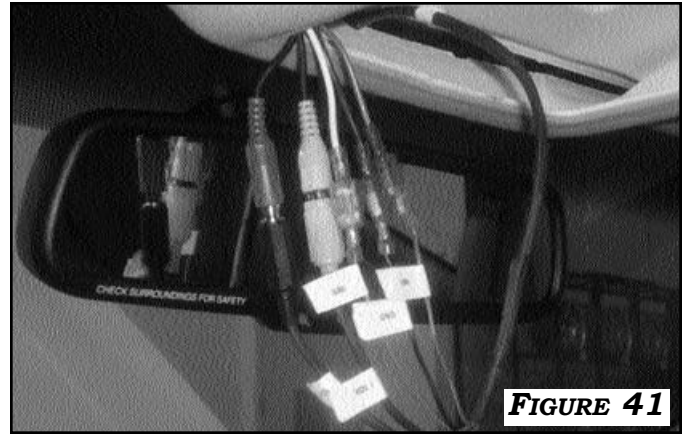

FIGURE 41
3. CONNECT **MALE RCA** VIDEO CONNECTOR OF CAMERA EXTENSION HARNESS TO **VIDEO** INPUT (YELLOW CONNECTOR) OF MIRROR HARNESS. CONNECT **MALE DC** POWER CONNECTOR OF CAMERA EXTENSION HARNESS TO CAMERA **POWER** OUTPUT (BLACK CONNECTOR) OF REARSIGHT MIRROR HARNESS. CONNECT RED, WHITE, AND BLACK WIRES OF POWER EXTENSION HARNESS AS SHOWN IN **FIGURE 41**. WRAP ALL **RCA** AND **DC** CONNECTORS WITH THE FOAM TAPE PROVIDED. **FIGURE 42**